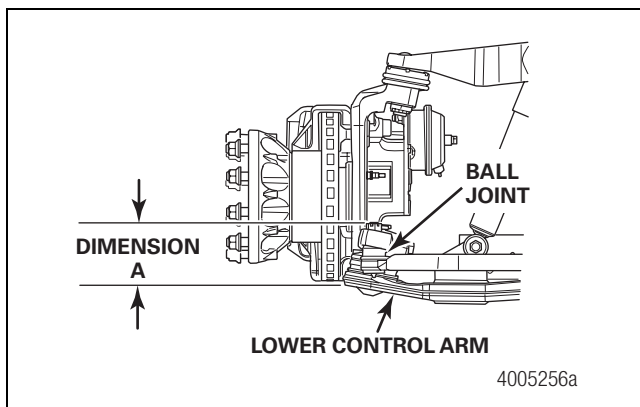

Figure 4.6
- B. Using a dial indicator or suitable measuring instrument, measure the distance between the bottom of the lower control arm and the top of the 80 mm lower ball joint, Dimension A. Figure 4.6.